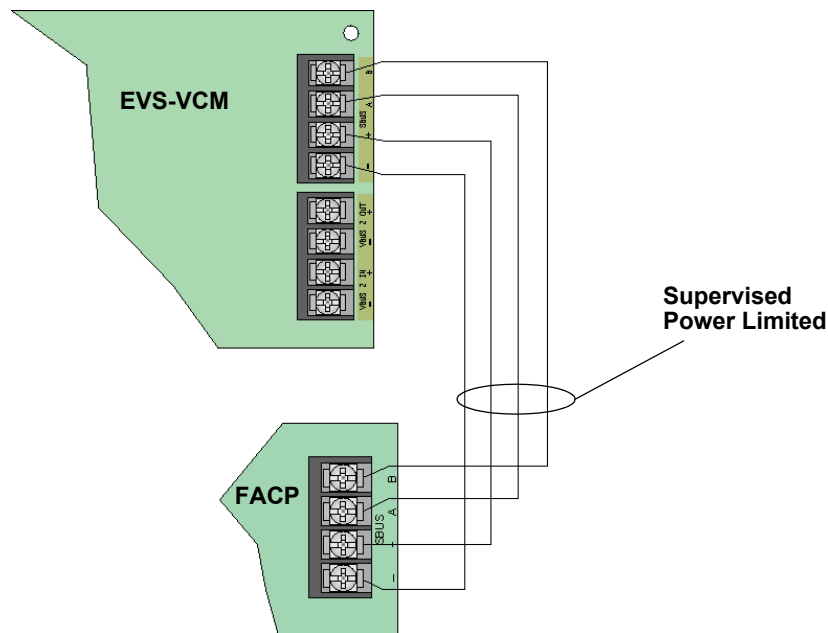

Figure 4-7 SBUS Connections
Refer to Figure 4-7 to properly connect the EVS-VCM to the FACPs SBUS.
2. Disconnect the SBUS connections from the SBUS terminals on the EVS-VCM. See Figure 4-7.